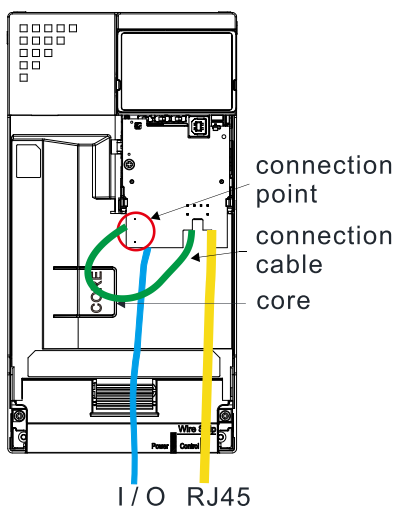

Figure 8-17
4. Assembling connection cables: Connect the connector at the other end of the connection cable to the connector of option cards, and make sure the core place in the groove, as shown in the Figure 8-17